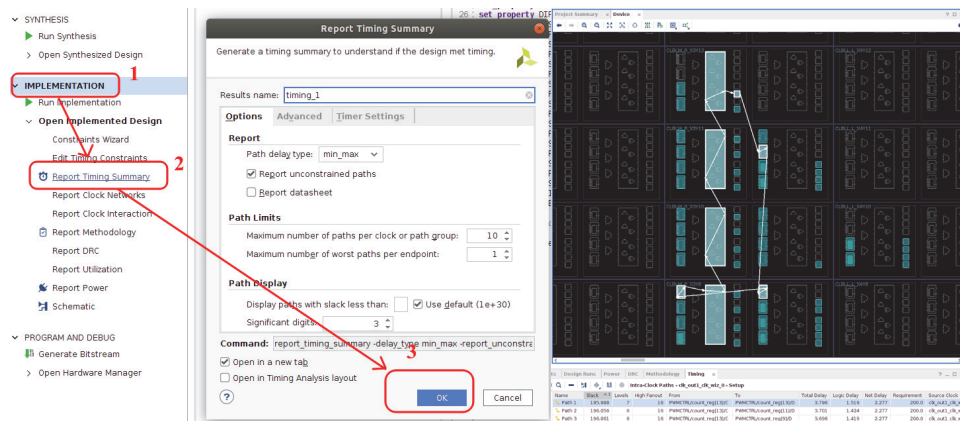

Fig. 6. Performing Static Timing Analysis-1 Fig. 7(a). Critical Path in Device View
- 4.2.3 You will now learn to do Static Timing Analysis (STA) using Timing Analyzer as shown in Fig. 6